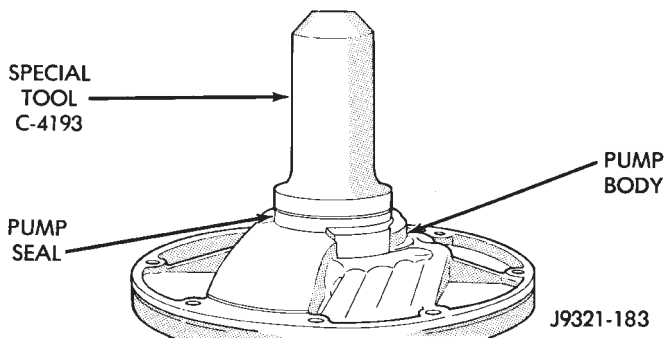

Fig. 61 Pump Oil Seal Installation
(12) Install new oil seal in pump with Special Tool C-4193 and Tool Handle C-4171 (Fig. 61). Be sure seal lip faces inward.
(13) Install new seal ring around pump housing. Be sure seal is properly seated in groove.
(14) Lubricate lip of pump oil seal and O-ring seal with transmission fluid.